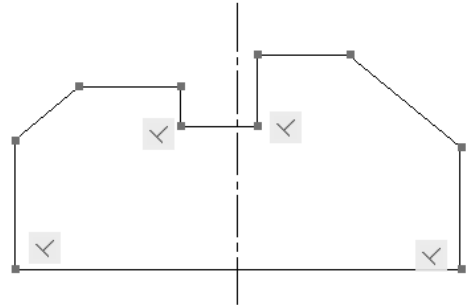

Figure 11-11 Sketch after applying the perpendicular constraint
15. Apply the perpendicular constraint between the vertical lines and the small horizontal line. The sketch after applying all perpendicular constraints is shown in Figure 11-11.